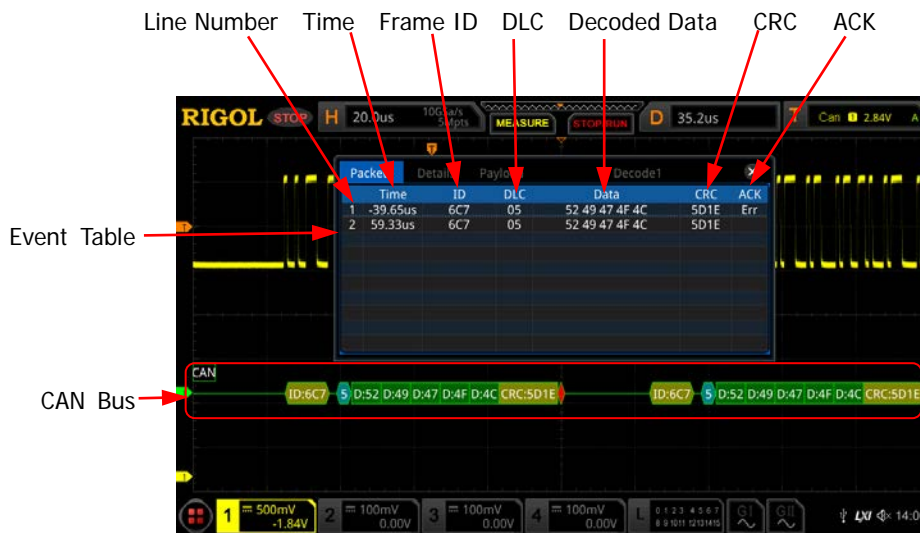

Figure 12-11 CAN Decoding Event Table
- Open or close the event table: Press **Event Table** continuously to enable or disable the event table. When you enable the event table, the following figure is displayed, as shown in Figure 12-11. You can also enable the touch screen to tap the icon  at the upper-right corner of the table to close the event table. Besides, when the operating status is "STOP", you can also rotate the multifunction knob  to select a specified line and view the corresponding decoding information.